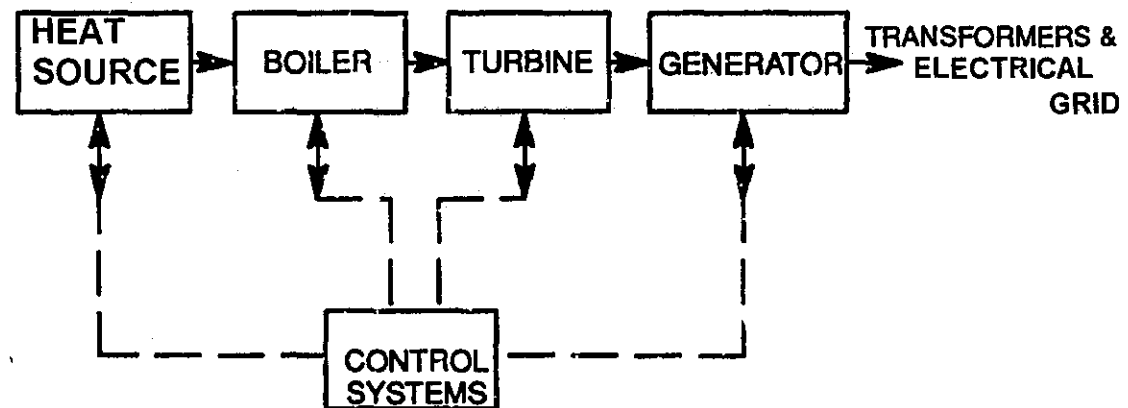

Figure 1: Simplified Electric Generating Station.
- A typical industrial plant such as an electric generating station (Figure 1) has many process variables that have to be measured and manipulated. The use of instruments allows the automatic control of such processes.